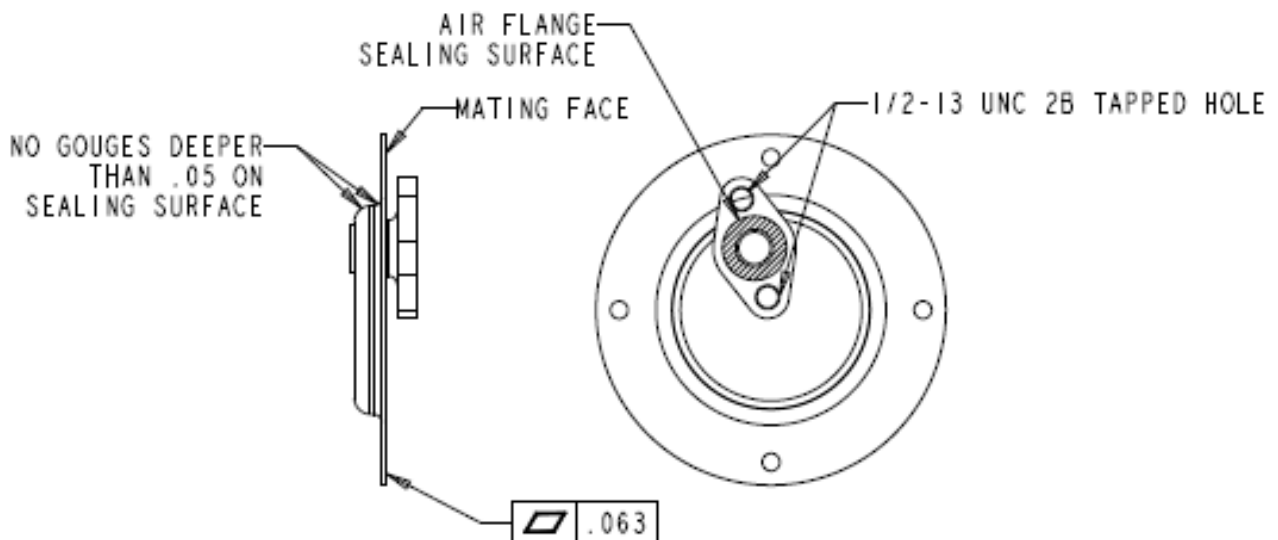

Figure 6. Inlet Flange Plate Condemning Limits
- 7.7.1 Flatness of mating face may not exceed  $.063$ ", see Figure 6. If flatness of mating face exceeds  $.063$ ", the part must be replaced.
- 7.7.2 Scrapes or gouges on the sealing surface must not exceed  $.05$ " deep, see Figure 6. If scrapes or gouges exceed  $.05$ " deep on the sealing surface, the part must be replaced.
- 7.7.4 Scrapes or gouges on the air flange sealing surface must not exceed  $.05$ " deep, see Figure 6. If scrapes or gouges exceed  $.05$ " deep on the air flange sealing surface, the part must be replaced.
- 7.7.5 Tapped holes on inlet flange must accept a  $1/2$ "-13 UNC bolt, see Figure 6 or be chased. If threads cannot be chased, the part must be replaced.
- 7.7.6 Any oxidation and loose paint must be removed from the sealing surface and air flange sealing surface, see Figure 6.